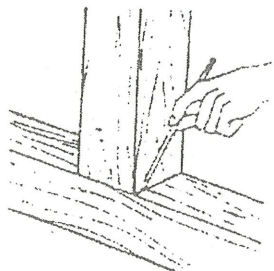

Fig.31
1. Fit boards together as you would like them to appear when finished. Make a small mark where the horizontal and vertical boards meet (Fig.31)